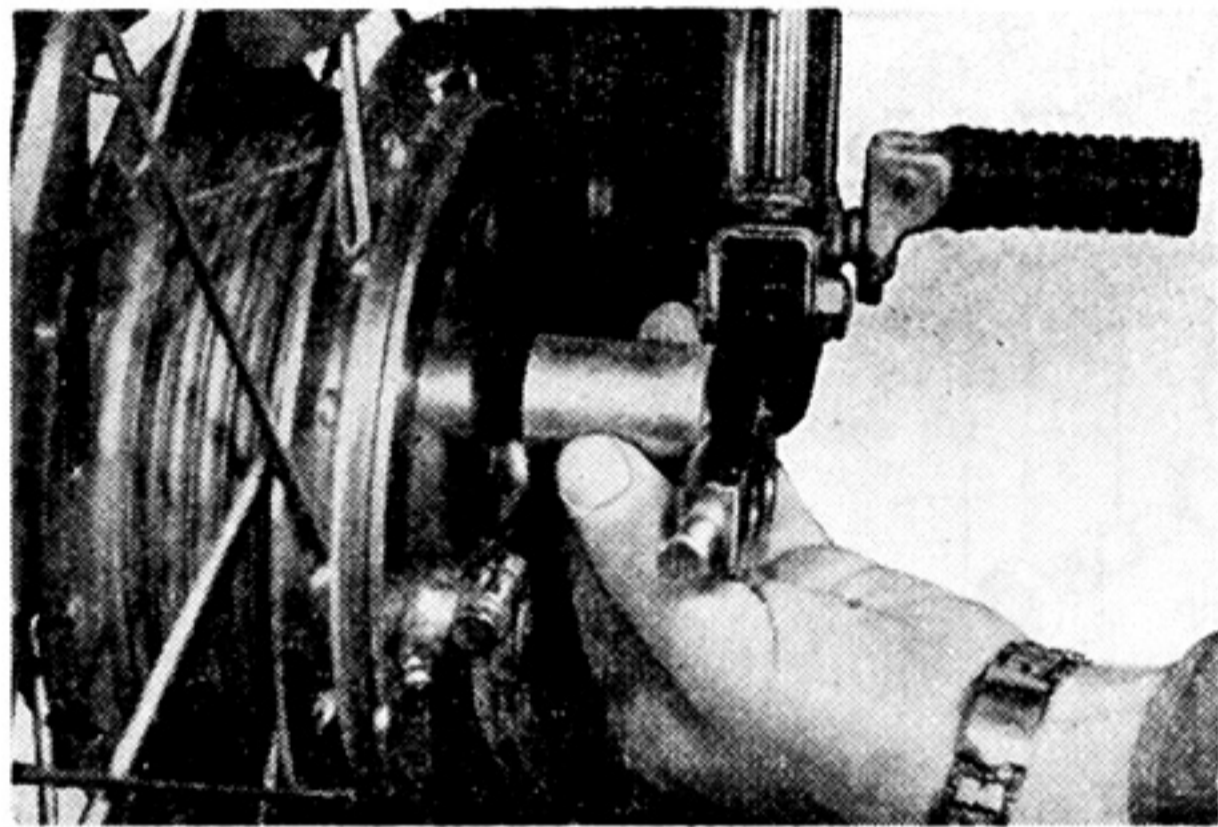

Fig. 4-2-7
- c. Remove the distance collar. (Fig. 4-2-7)